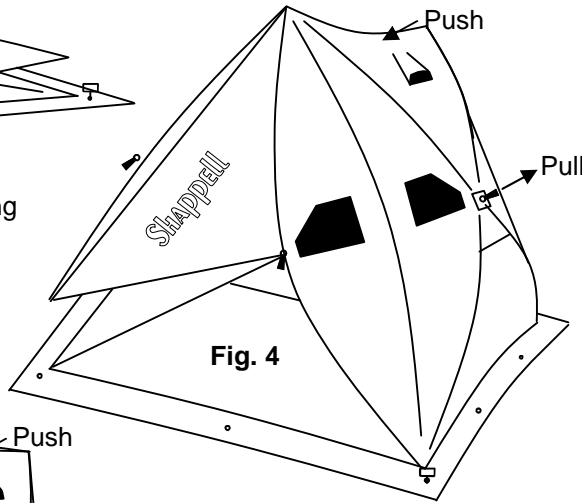

Fig. 4
4) Pull out Side Hub while pushing against Top Center. (Fig. 4)